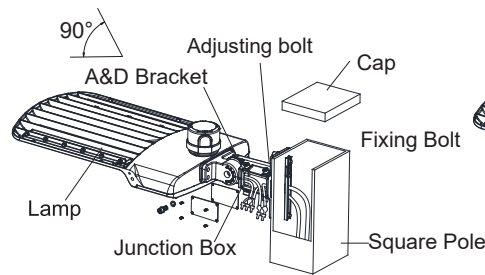

Figure 16
Step 2: Fix ADM bracket to square pole with bolt, open the cover of ADM bracket junction box, pull the wire into bracket junction box, connect the wire properly and cover the junction box. (Figure 16)
Notice: Adjustable angle is 0-90°. (Figure 16)